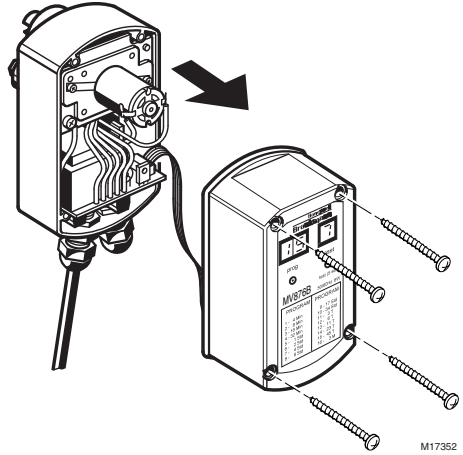

Fig. 8. Removing the MV876 cover.
1. Unscrew the four housing screws and set them aside. (see Fig. 8).
2. Remove the MV876 cover (see Fig. 8).
3. Insert four AA alkaline batteries (see Fig. 8).